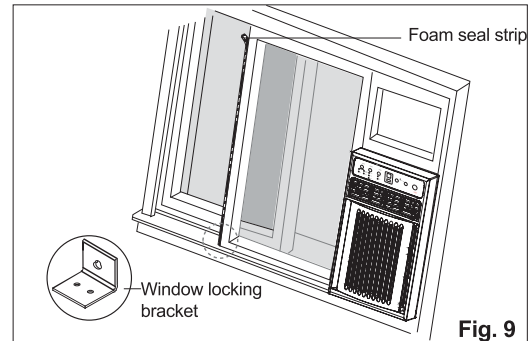

Fig. 9
14. If this is a casement window installation, Proceed to Casement Window Installation. If not, stuff the Foam Seal Strip between the vertical sash and the window glass. (Fig. 9)
15. Attach the L Bracket with a Type B screw. (Fig. 9)